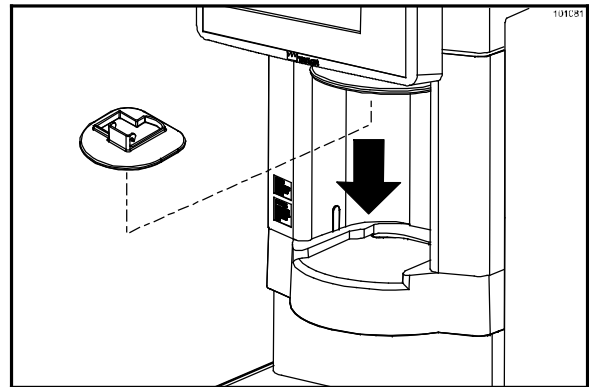

Figure 130
- Remove the splash guard. (See Figure 130.)